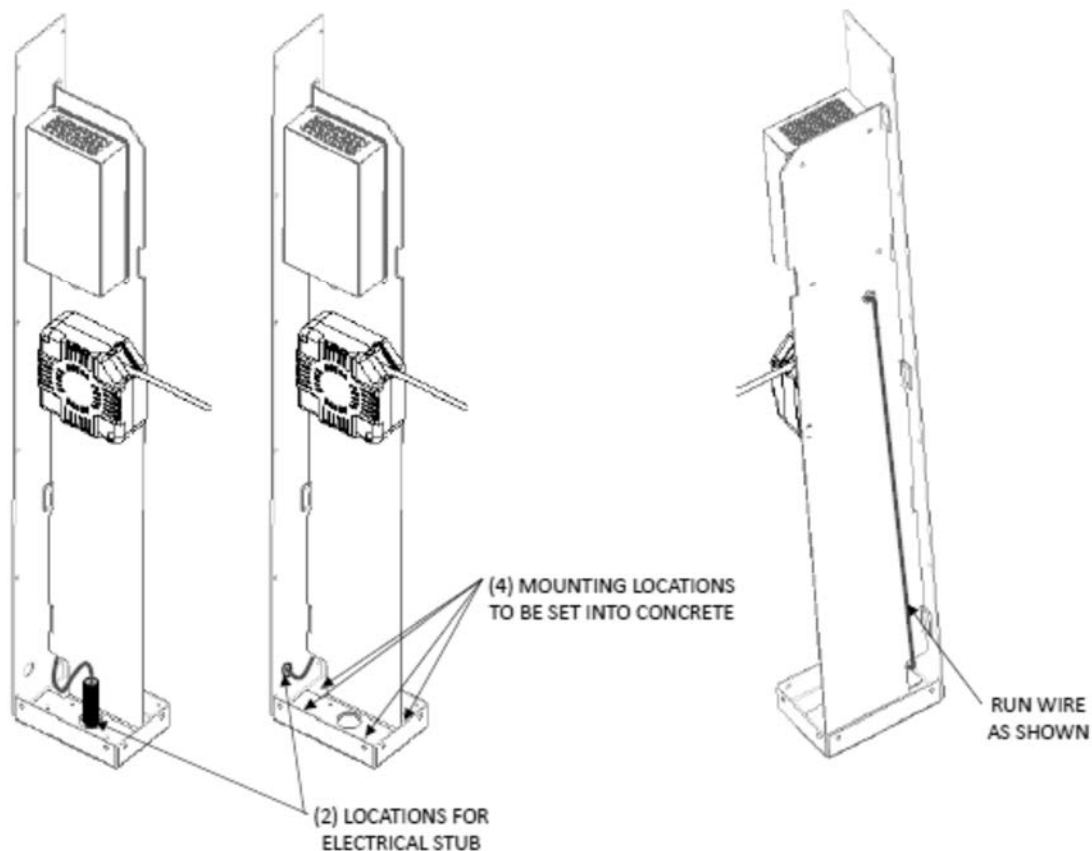
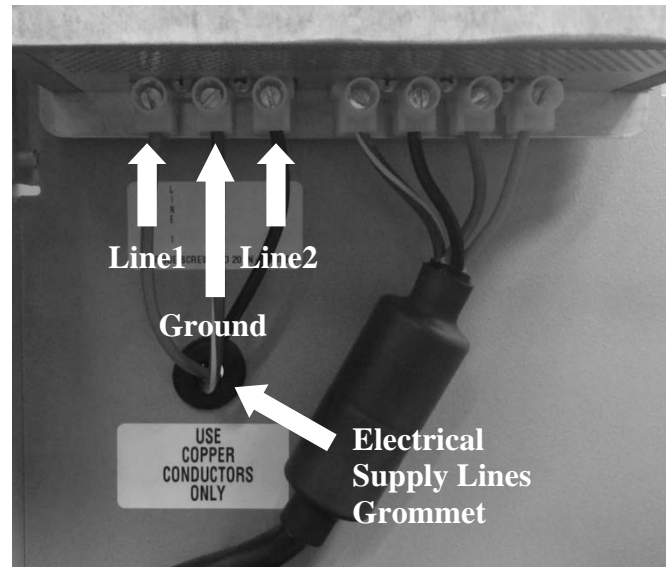

Figure 6 – Input Wiring Routing
Figure 7 – Input Wiring Termination
⚠ IMPORTANT: Torque fasteners to concrete anchor manufacturer's recommended torque value. (See Figure 6)
8. Feed electrical supply through either rear or bottom entry location on left of unit. If rear entry is used, secure conduit to rear housing with appropriate hardware. Feed wires from left to right of unit through bottom rear wire access hole. Route cable upwards and feed from right to left of unit through cable pass-through grommet between cord reel and circuit board. (See Figure 6 on previous page and Figure 7 below)
9. Terminate Line1, Line2, and Ground wires per Figure 7.
10. Install the 6 screws in the lower front and sides of the unit that attach the front housing to the charging base. (See Figure 6 on previous page)
<p>None of the status lights are illuminated. L2 PowerPost® EVSE does NOT charge vehicle when charge coupler is plugged in.</p>	<ul style="list-style-type: none"> • Interrupt power to the L2 PowerPost® EVSE and lock out as appropriate. Disassemble unit per steps 3-5 above. Restore supply power to L2 PowerPost® EVSE. Verify that proper supply voltage is present at the L2 PowerPost® EVSE terminal block. (See Figure 7) • Interrupt power to the L2 PowerPost® EVSE and lock out as appropriate. Verify that supply power wiring is securely terminated to incoming power terminal block. • Interrupt power to the L2 PowerPost® EVSE and lock out as appropriate. Remove incoming power fuse and verify continuity. Replace fuse if blown. • If these steps do not resolve the problem, contact Telefonix technical support.
4. Disconnect the supply wiring and cord reel wiring from their respective terminal blocks. (See Figure 7 in the Installation section)
8. Reconnect the supply wiring to the terminal block per Figure 7 in the Installation section.